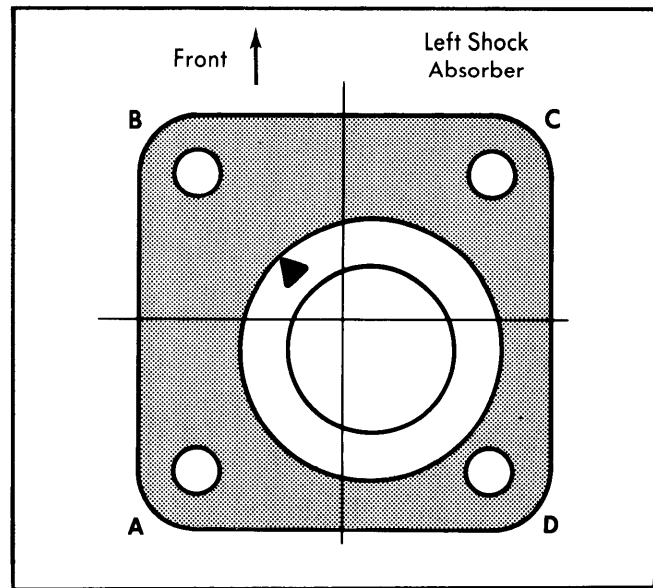

Fig. 1 RX4 Caster & Camber Adjusting Pad
2) Press shock absorber downward and change position of support according to table and Fig. 1. Tighten shock absorber support mounting nuts. Install wheel, lower vehicle and recheck caster and camber.